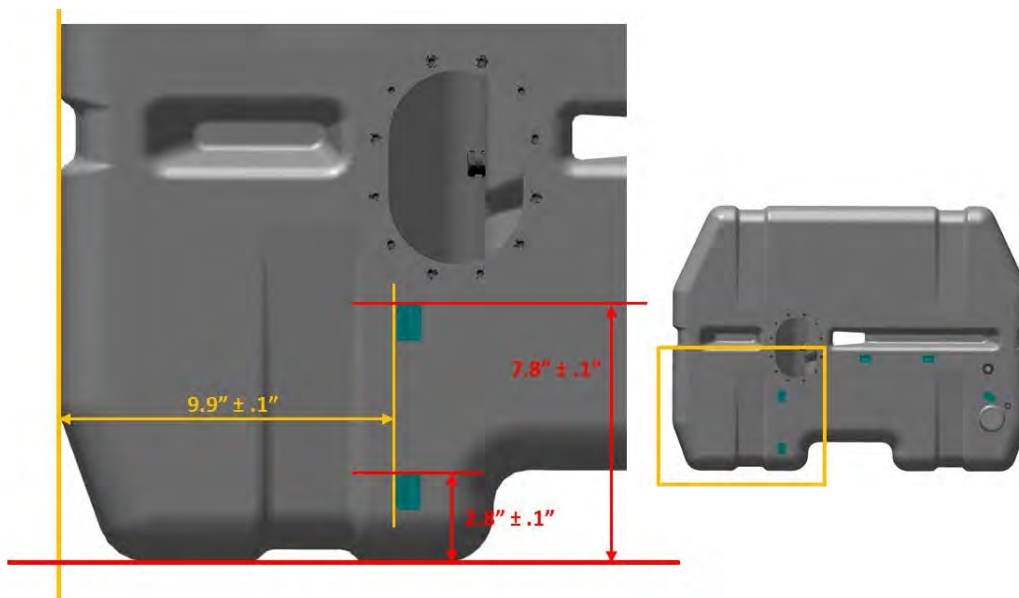
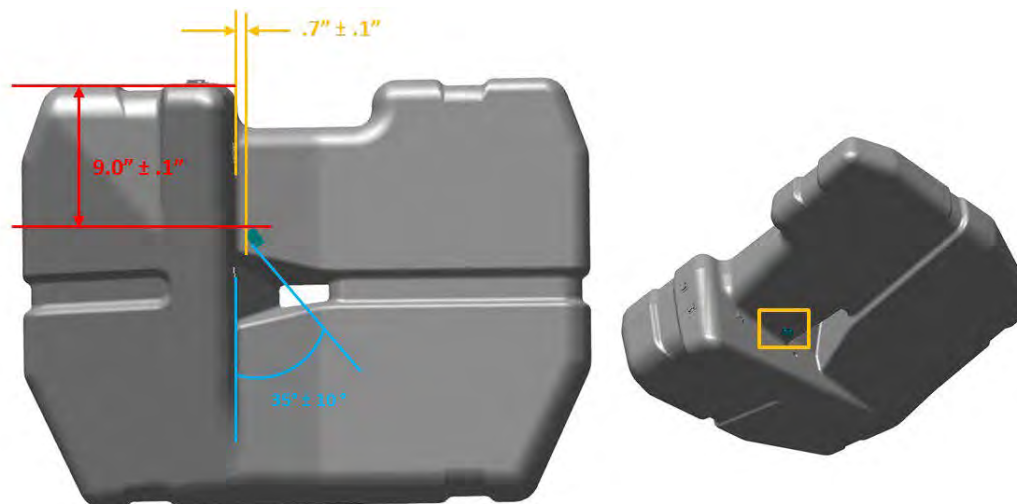

FIGURE 10-10
FIGURE 10-14
- a. Mark the location and orientation of the CABLE TIE ANCHOR MOUNTs as shown in Figure 10-10-Figure 10-14.